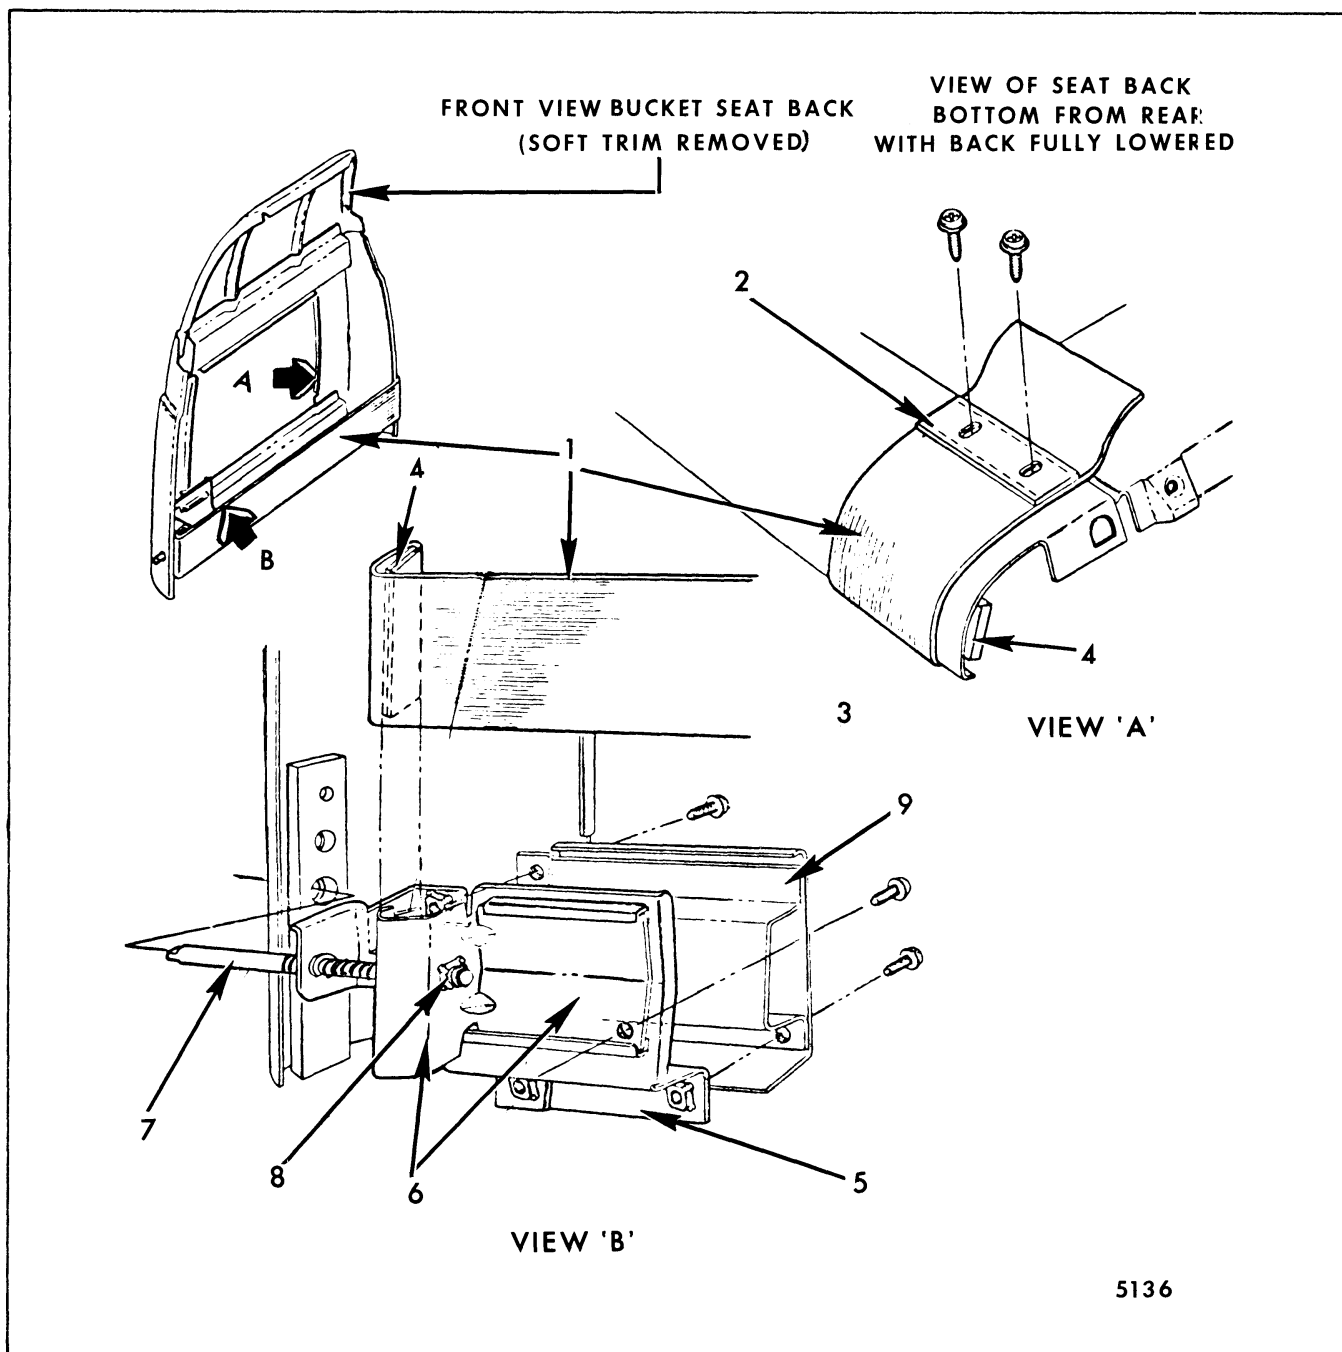

Fig. 9-42-Custom Comfort Bucket Seat Back Lumbar Support Guide Assembly and Strap
3. Remove three guide-to-seat back frame attaching screws (Fig. 9-42). Work guide assembly towards opposite side of seat to disengage guide shaft from hole in seat back frame; then, remove guide assembly from seat back.
5. To remove support strap, remove hog rings securing trim cover to seat back frame in area of strap attachment (Fig. 9-42), and turn back trim cover sufficiently to gain access to screws securing strap retainer to seat back frame side bar (Fig. 9-42).
6. Remove right seat back hinge upper arm upper attaching screw and remove two screws securing strap retainer to seat back side bar (Fig. 9-42); then, remove strap from seat back.